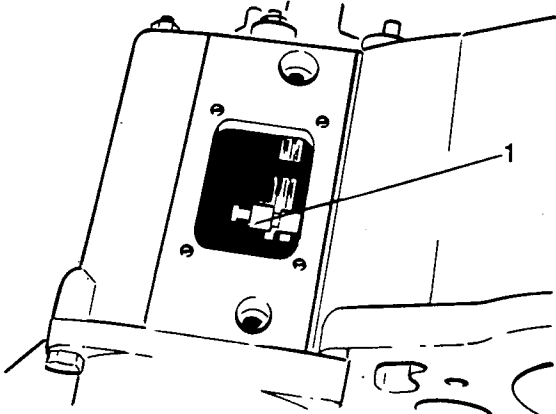

Fig H1.91
- (6) Refer to Fig H1.91. Make sure that the pinch bolt (1) of the high and low selector fork, fits into the cut-away provided on the selector shaft.